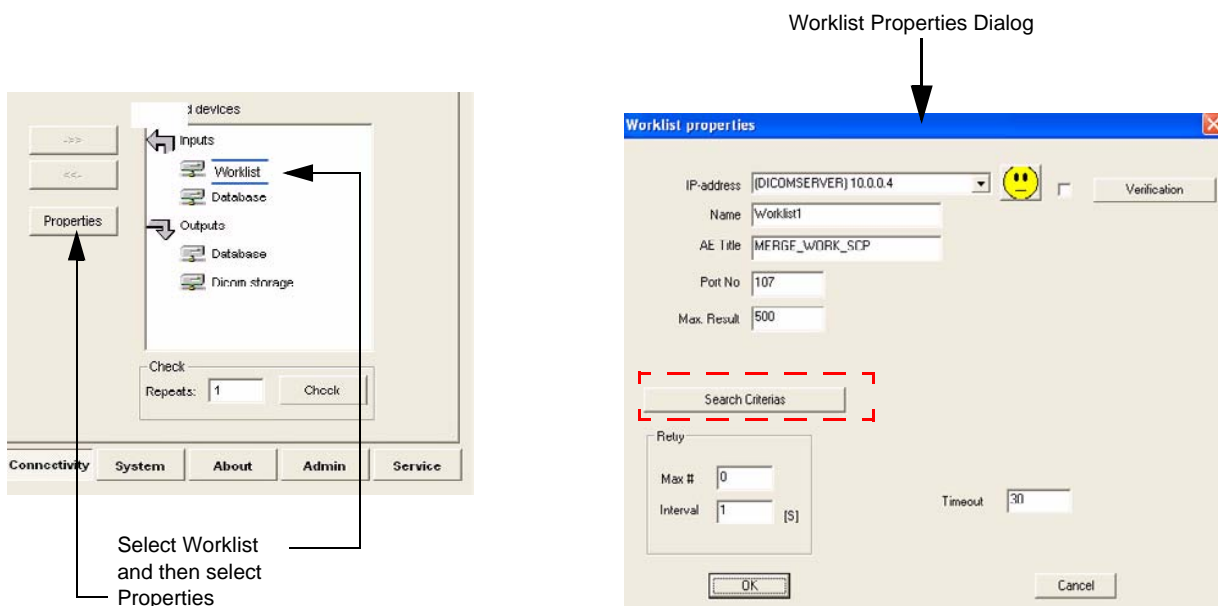

Figure 3-72 Select Worklist Properties Dialog Box
- 7.) Click on "**Search Criterias**" (Figure 3-72).
The *Search Criterias* window opens (Figure 3-72).
- 8.) Highlight the modality filter in the list and click on **"Remove"** (see Figure 3-72).